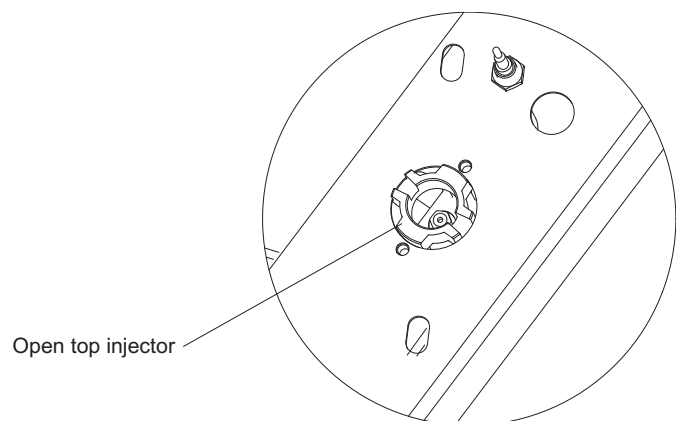

Figure 9
3.1.2 Open Top Bypass Screw - To Replace (Figure 9)